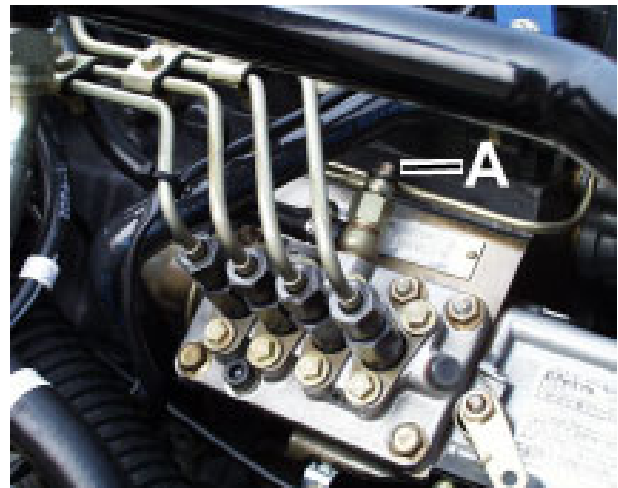

Fig.11
4. Open air vent (A) on side of injector pump to allow air to escape.(Fig.11)